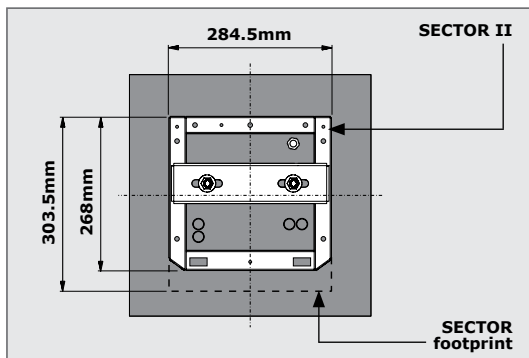

FIGURE 1
- The **SECTOR II** fits within the SECTOR footprint. This may have implications with respect to cable entry (Figure 1)